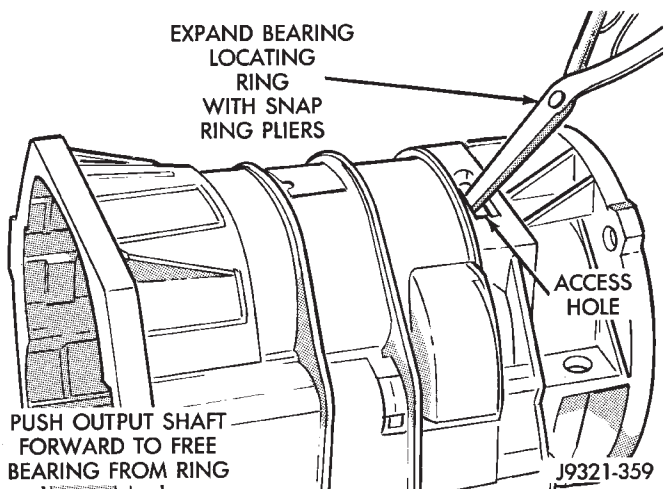

Fig. 242 Seating Locating Ring In Rear Bearing
(9) Expand front bearing locating ring with snap ring pliers (Fig. 242). Then slide case downward until locating ring locks in bearing groove and release snap ring.